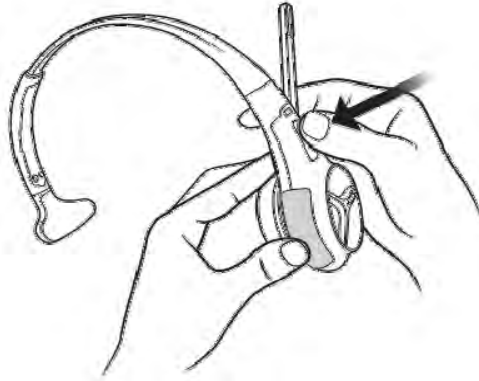

Figure 9.
3. Gently press the two halves together until they securely snap into place at the top. You may need to apply a slight downward pressure to align the connections appropriately. When the Control pod is connected to Carrier you will hear a slight click sound. See Figure 9.